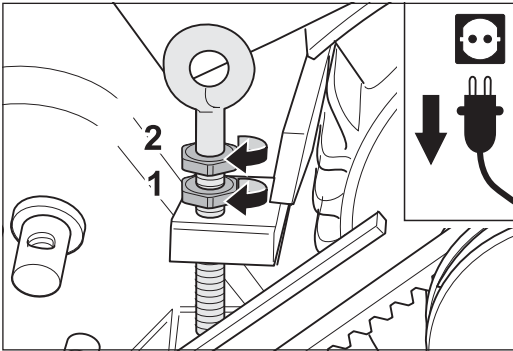

Fig. 109 First tighten the lower nut (1), then the upper nut (2) at the eye bolt at the motor.
- 5 First tighten the lower nut (Fig. 109, 1), then the upper nut (Fig. 109, 2) at the eye bolt at the motor.